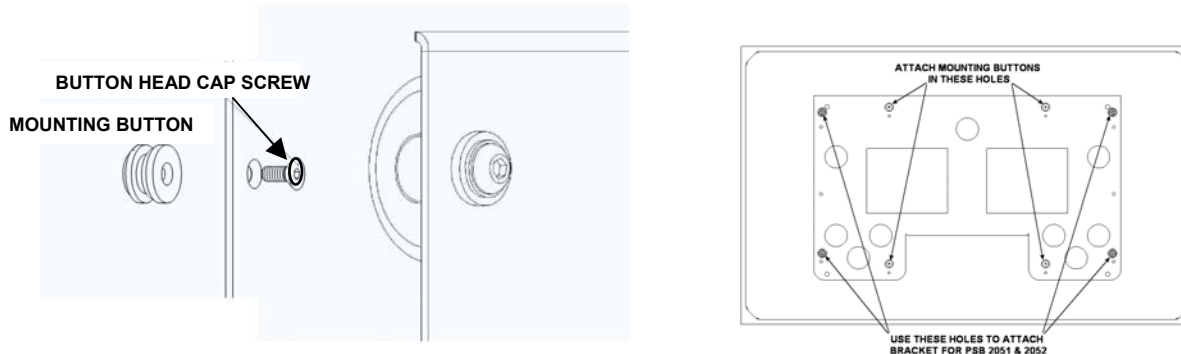

Figure 2
1. Using a 10-24 button head cap screw inserted from the square hole side of bracket, secure mounting button, with chamfered hole of mounting button (larger surface) facing bracket, to bracket (four places). See Figure 2.
2. Place four 20 mm spacers on display over mounting threads in display (Figure 2).
3. Place display bracket on display (see Figure 2) with bent lip towards the display, place shoulder washers into mounting holes and place M8 flat washers on top of shoulder washer (Figure 2).